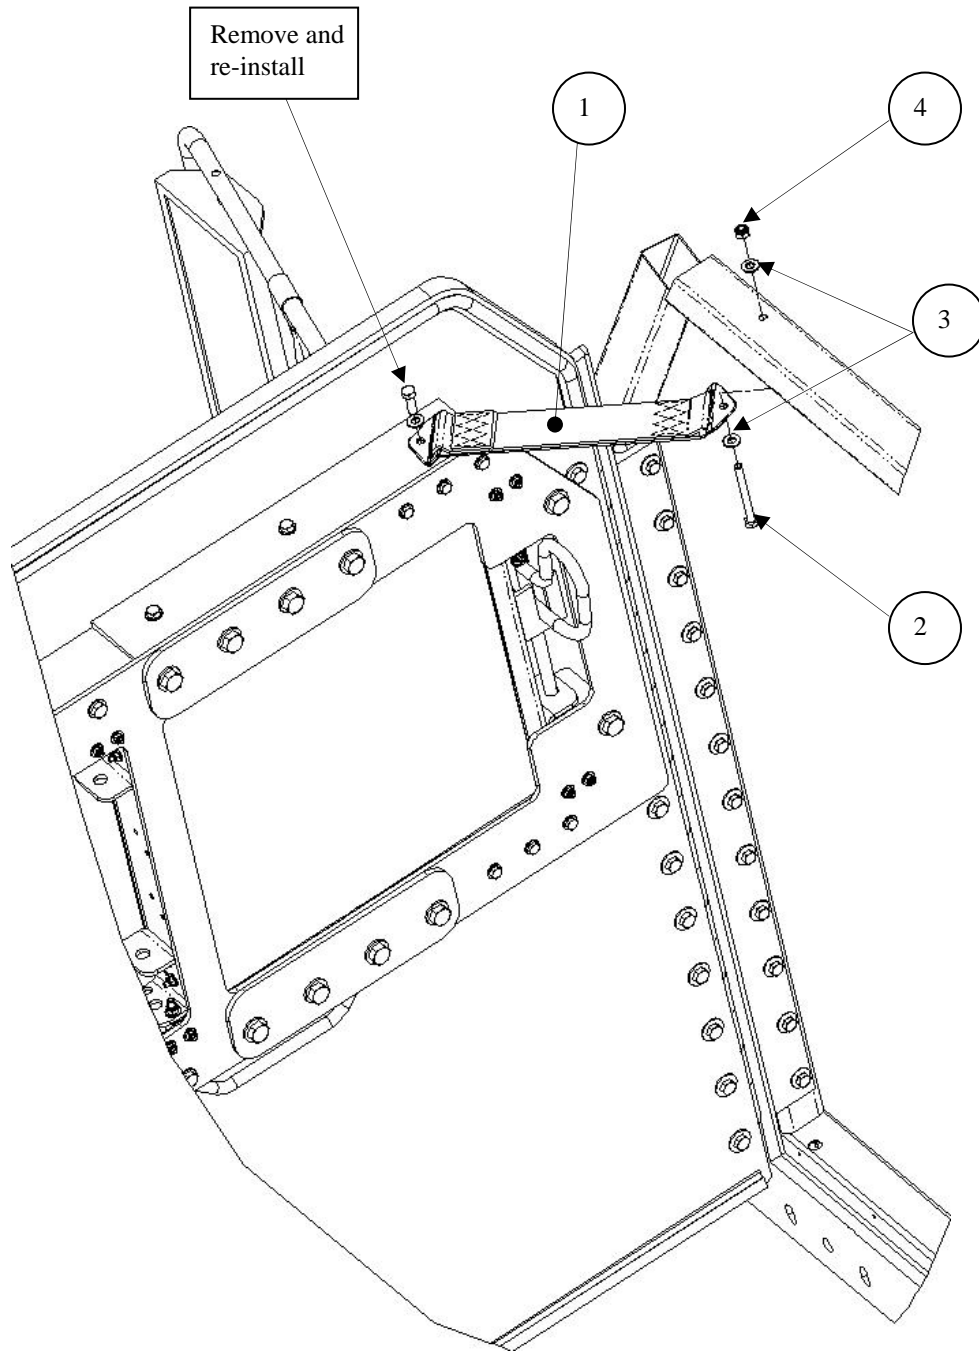

Figure 3-81. Door Strap Assembly Installation.
5. Install door strap assembly as follows (see Figure 3-81):
- a. Remove one existing bolt and washer from top of door as shown in Figure 3-81.
- b. Install door strap assembly (1) onto door and secure to door with one bolt and washer removed in previous step. Torque bolt to 13 lb-ft.
- c. Locate and drill one $\varnothing 11/32$ -inch hole into door opening frame as shown in Figure 3-81.
- d. Secure loose end of door strap assembly (1) to door opening frame and secure with one bolt (2), two flat washers (3), and one locknut (4). Torque locknut to 18 lb-ft.